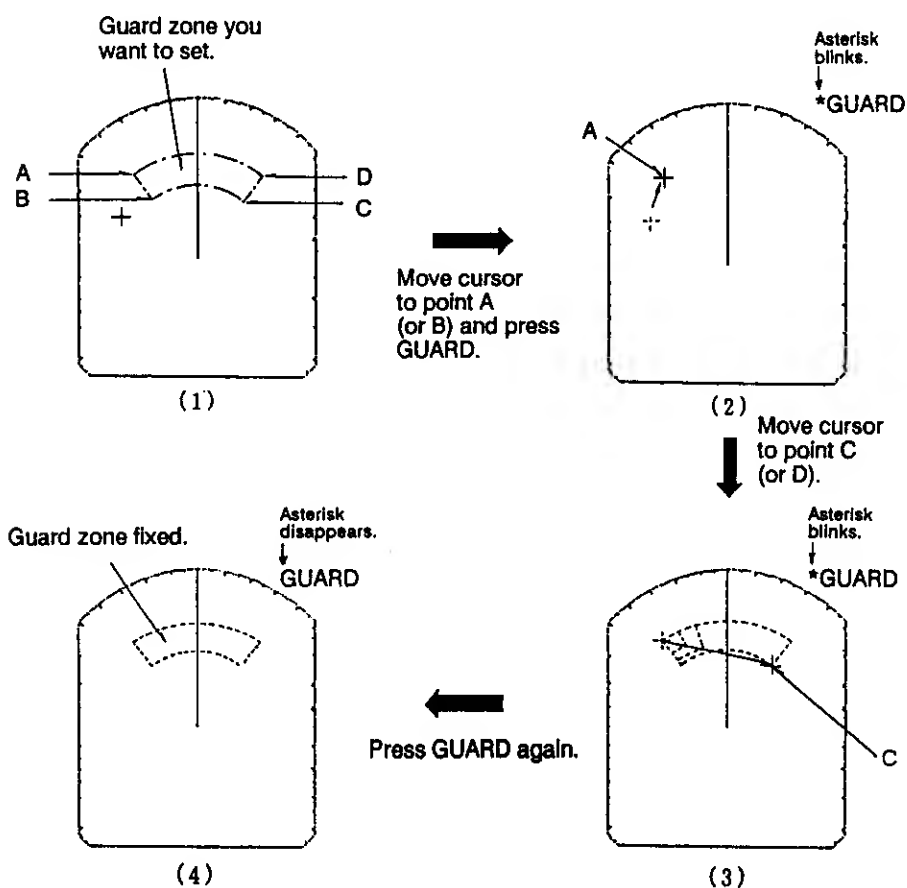

Figure 2-14 Setting Guard Zone
1. Mentally create the guard zone you want to display on-screen. See Figure 2-14 (1).
2. Set the upper (lower) left edge of the guard zone with the cursor. Press the **GUARD** touchpad. The indication "\*GUARD" (asterisk blinking) appears at the upper right-hand side of the screen. See Figure 2-14 (2). The asterisk indicates the guard zone is partially set, but the alarm function has not been actuated.
3. Moving the trackball clockwise, set the lower (upper) right edge of the guard zone. The guard zone now appears on the display but the alarm function has not been actuated yet. See Figure 2-14 (3).
4. Press the **GUARD** touchpad again. The asterisk disappears and the alarm function is actuated after three to five antenna scannings, when Auto In or Auto Out mode is decided. Then, the indication "GUARD" is replaced by "G (IN)" or "G (OUT)", respectively.
6. Press the **GUARD** touchpad again to restart alarm function. "GUARD" lights in normal video for about 10 seconds and then changes to "G (IN)" or "G (OUT)".